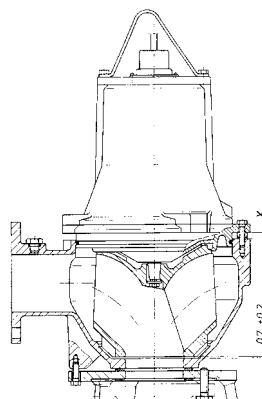

Fig. 15
4. Slacken the fixing screws and open the clearance to 0.7 mm ±0.2 mm by tightening the three adjusting screws, see fig. 15. Check that the clearance is equal all around the suction opening.
The impeller clearance can be adjusted while the pump is mounted on the base stand and connected to the pipework, see fig. 15.
4. Measure the distance X between the shaft seal housing and the pump housing at three points using a slide caliper, see fig. 15.